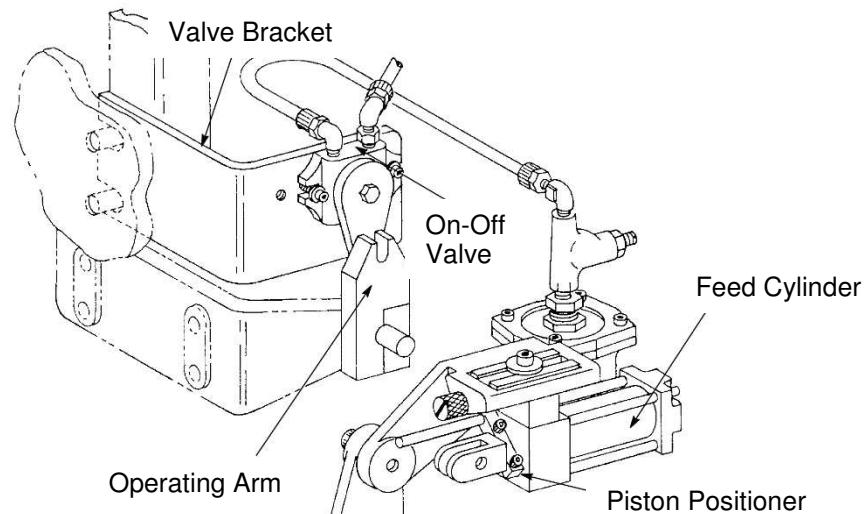

Figure 4
## b. Applicator with air feed systems (see Figure 4)
- (1) Loosen 3/4-in. hex nut slightly to allow pivot shaft to move in slot.
- (2) Loosen locknut on stroke length adjustment screw, and turn screw CLOCKWISE to SHORTEN stroke or COUNTERCLOCKWISE to LENGTHEN stroke. Tighten locknut.
- (3) Confirm that pivot shaft bushing is UP AGAINST stroke length adjustment screw, then tighten 3/4-in. hex nut. Repeat Step 5 to check for proper stroke length.
- b. Applicator with air feed systems (reference Figure 4)
- (1) With machine at rest and feed finger extended, loosen two screws holding positioner to feed cylinder shaft and move positioner in required direction on shaft.
- (2) Re-tighten screws.
- (3) Repeat Step 5 to check stroke length.